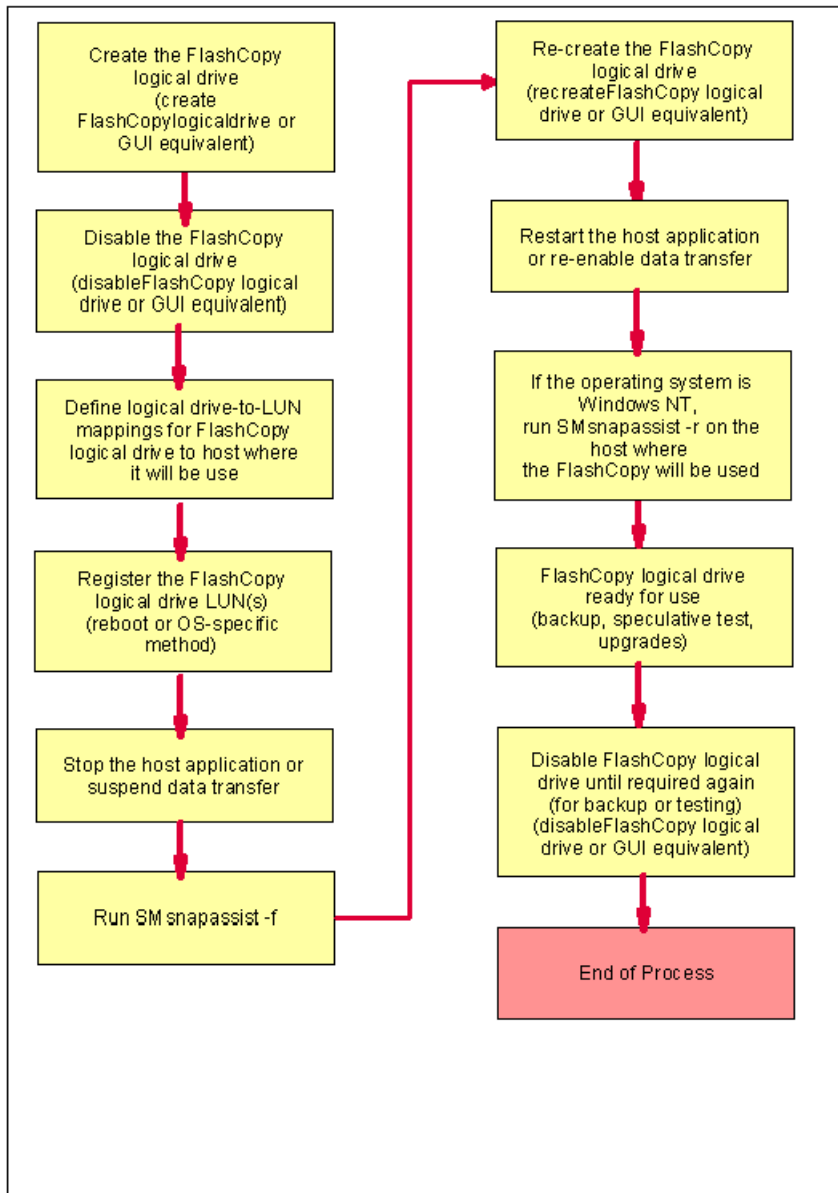

Figure A-1 Creating a FlashCopy logical drive: Windows basic/regular disks
- ▶ Create a FlashCopy logical drive on Windows 2000, Windows Server 2003 or Windows NT (using basic or regular disks). See Figure A-1.